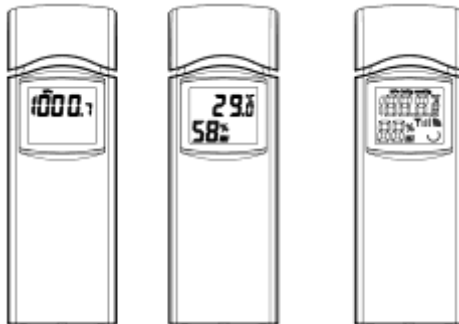

Figure 2: Indoor sensor 2 display variations
1. Remove the battery door on the back of the transmitter(s) by sliding down the battery door, as shown in Figure 2 .